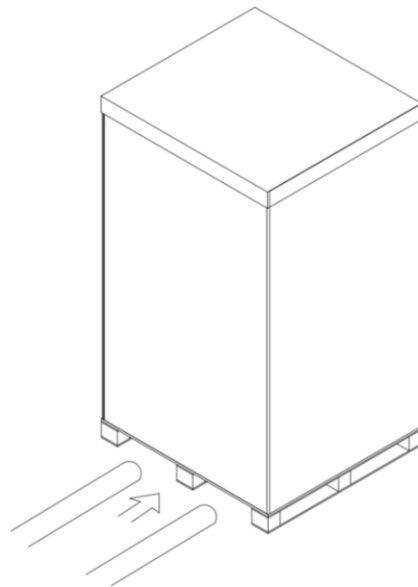

Figure 3-3 Transport to the designated site
**Step 2:** Transport the equipment to the designated site by forklift, as shown in Figure 3-3;